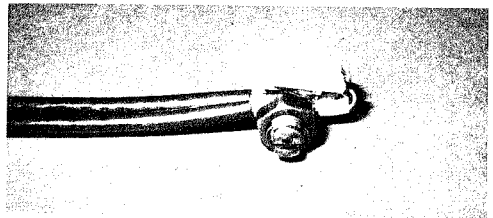

Fig. 7
5.02 Once the conductors of the buried wire are joined together, gently fold them back over the bridging connector in preparation for encapsulation as shown in Fig. 7.